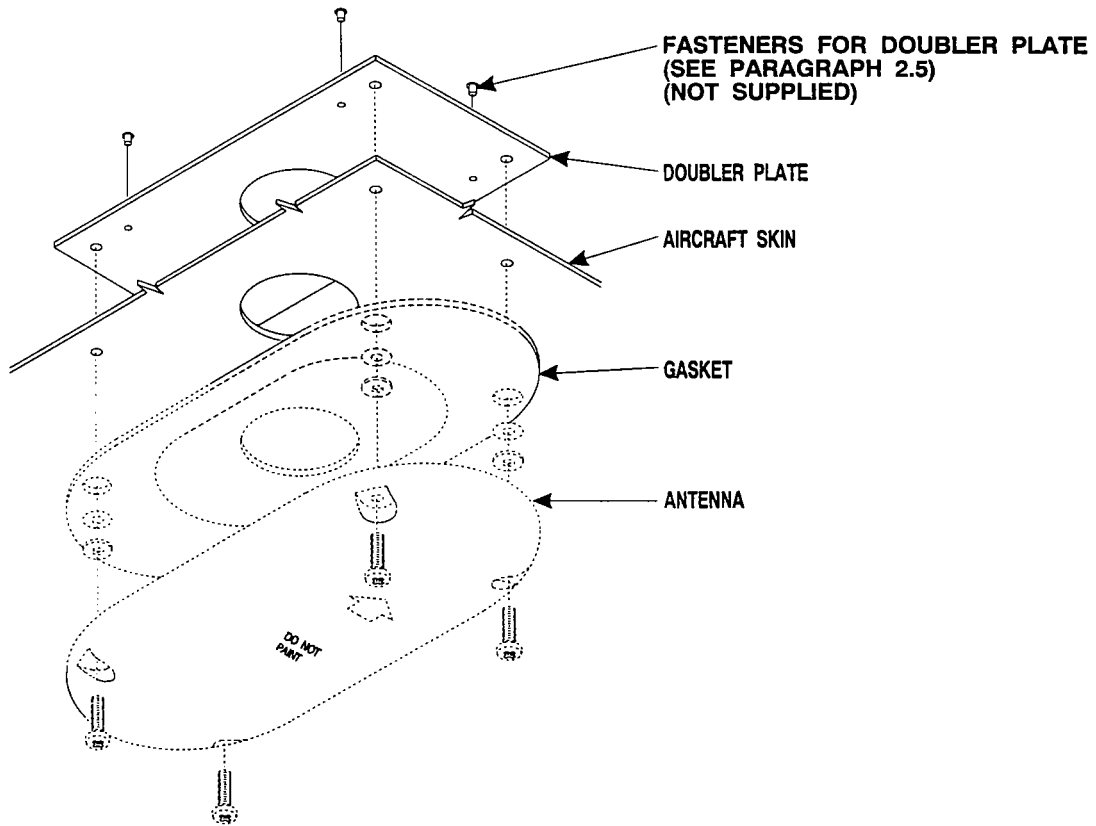

Figure 2-5. Antenna Doubler Installation
2. Mount the doubler plate to the inside of the fuselage as shown in Figure 2-5.